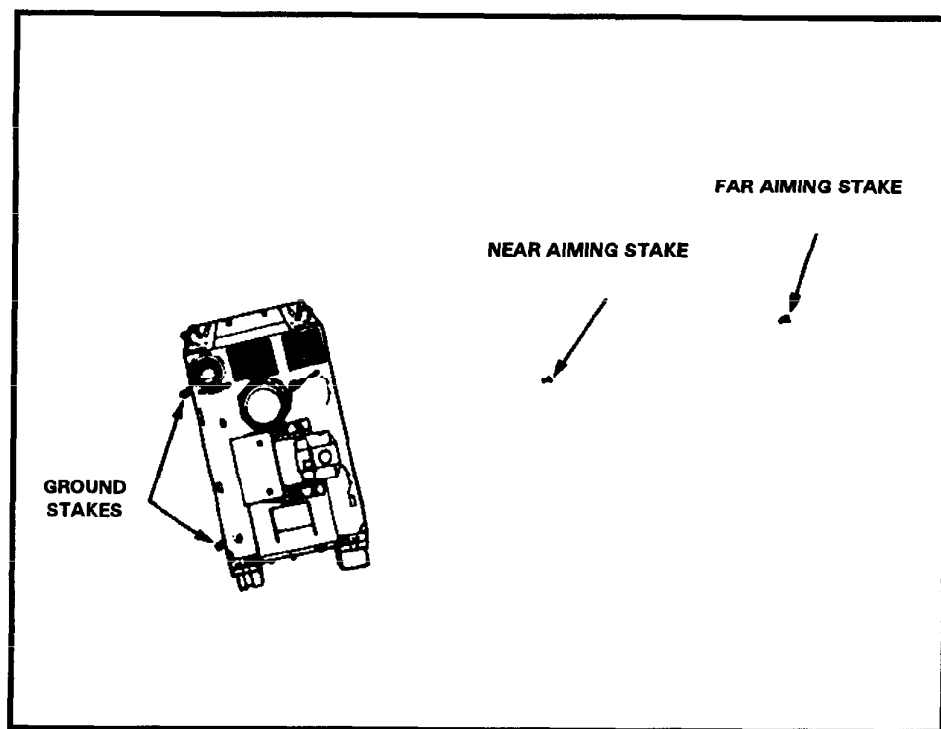

Figure E-14. Marking the ITV position (sloping terrain).
(1) When the terrain to the front of the ITV falls away sharply (such as a cliff or high hill) (Figure E-14)—